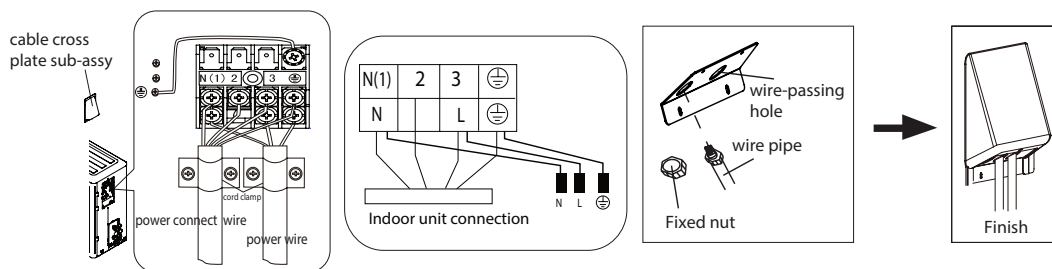

Fig.23
2. Remove the wire clip; connect the power connection wire and power wire to the wiring terminal; fix them with screws. (As show in Fig.23)